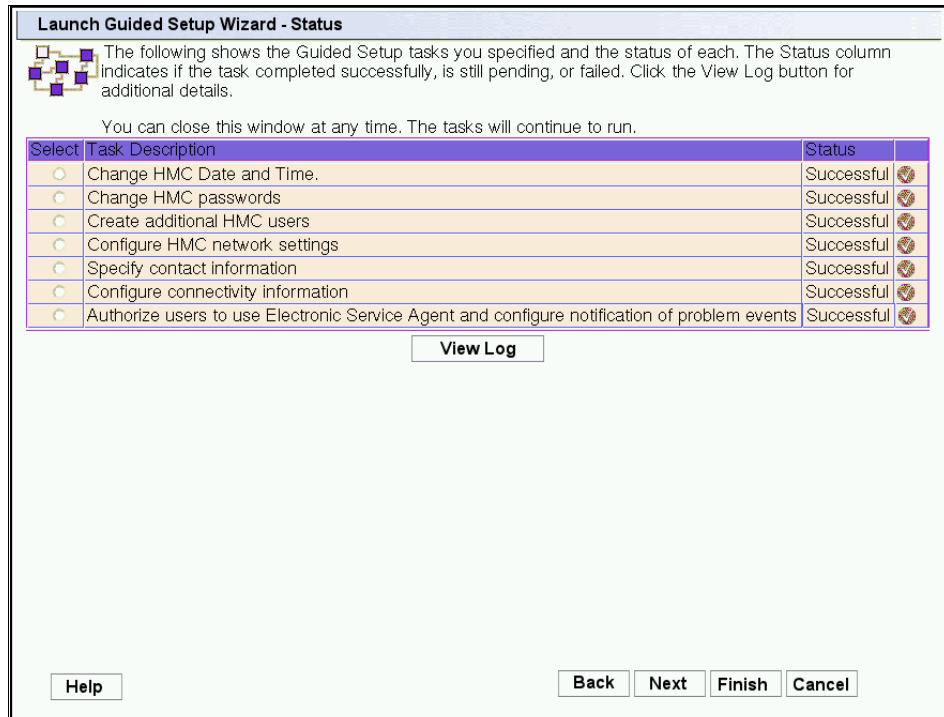

Figure 3-54 Launch Guided Setup Wizard - Status
46. The Launch Guided Setup Wizard - Status panel displays (see Figure 3-54). If every task completes, its status is updated automatically.